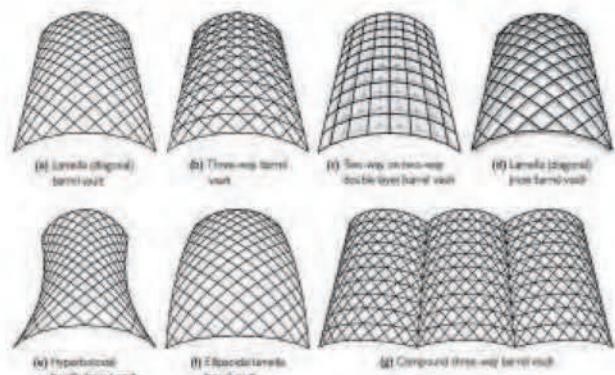

Figure 1: Examples of barrel vaults
**Periphery-supporting Space Frame (Fig.1)** This supporting type is widely used as it transmits force directly and gets evenly.
Full Scaffold Aerial Bulking method (Fig.1) This installation method is applied to the bolted-ball joint space Frame, and in places where there is no enough hoisting capacity and the full scaffold can be set up.